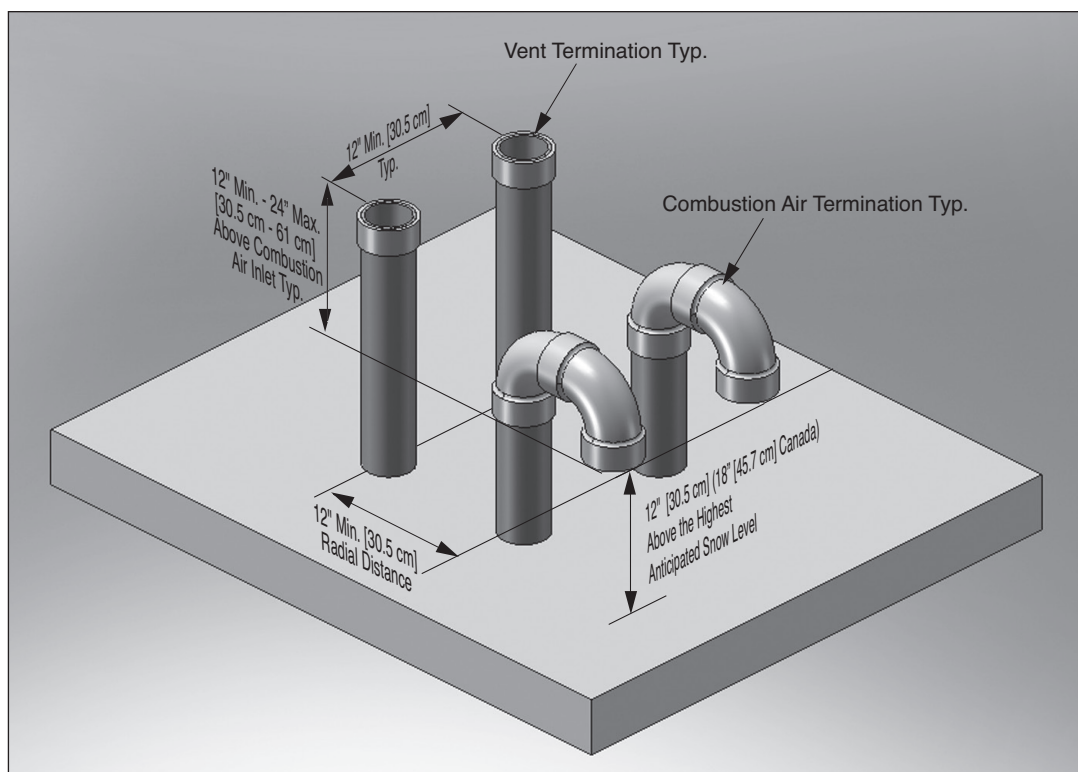

Fig. 5 - Direct Vent - Vertical Termination of Multiple Prestige Boilers
2. The roof penetration of the vent and combustion air piping must be such that the combustion air inlet is a minimum 12" [30.5 cm] from the adjacent vent pipe of the other boiler for installations in the U.S. as shown in *Fig. 5 on page 16*. For installations in Canada, provide clearances as required by CAN/CSA B149.1.